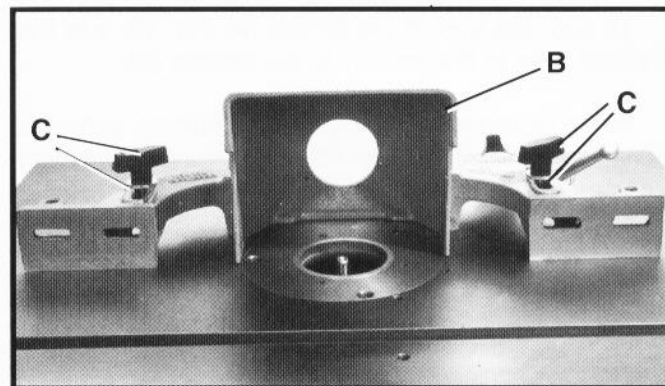

Fig. 9
2. Place the guard assembly (B) Fig. 9, on the table with the two slots in the fence brackets over the two studs and fasten in place using the two washers and knobs (C).